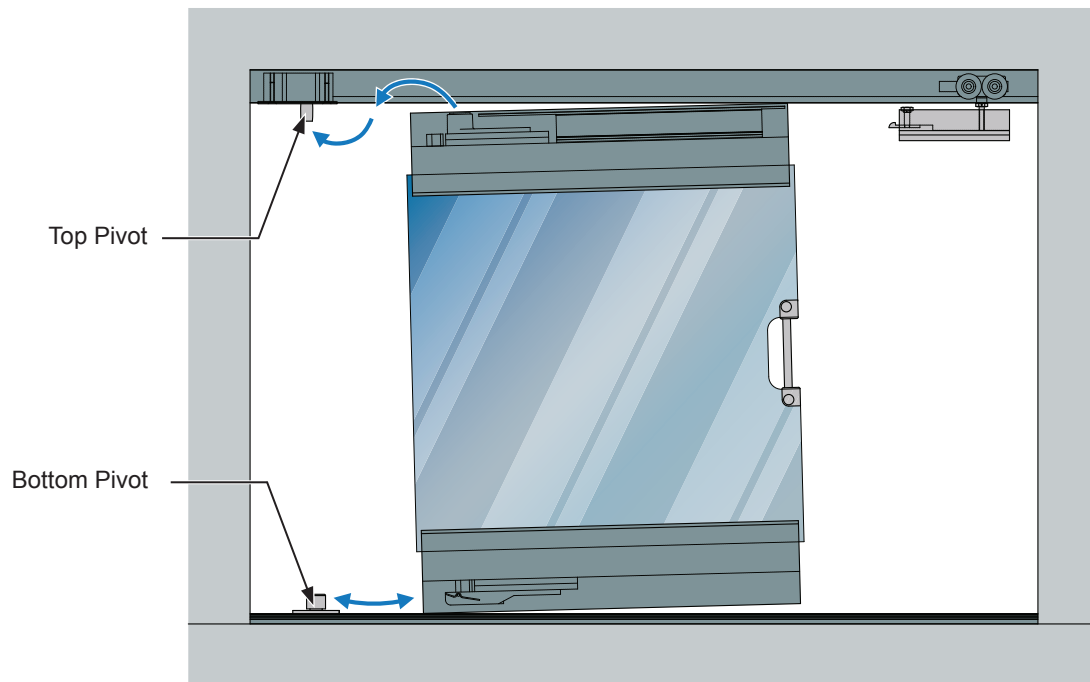

Fig. 10
1. Lift the pivot door leaf and insert the pivot receiver on the door into the top pivot. **(Fig. 10)**
2. Raise the door leaf and slide it onto the bottom pivot. **(Fig. 10)**